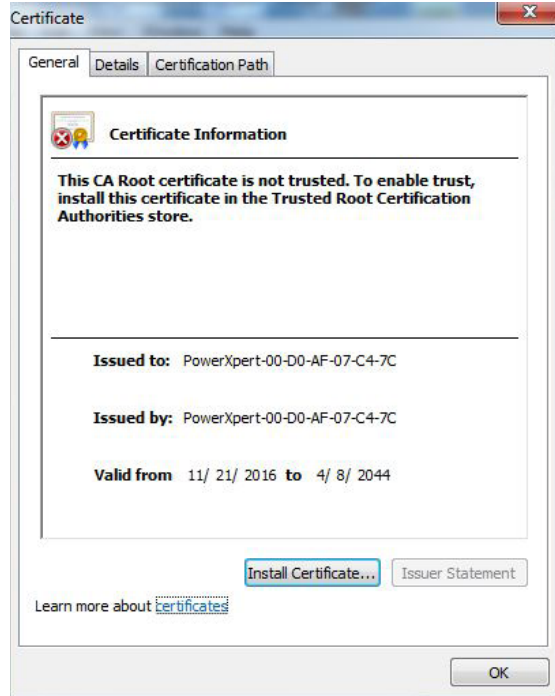

Figure 65. Certification Path Window.
4. In the Certificate dialog box, click the Install Certificate... button (see Figure 65).